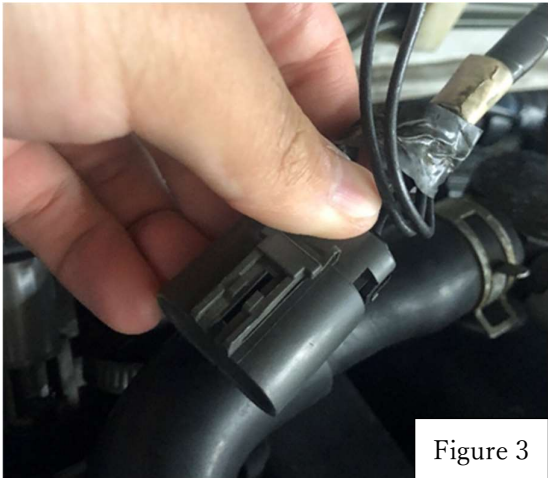
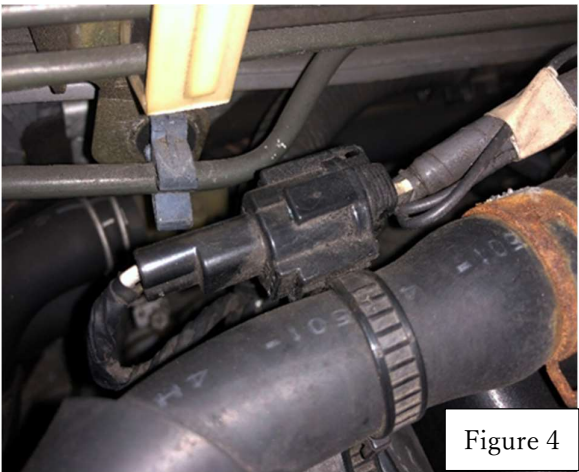

Figure 3
Figure 4
(4) Disconnect the Power connector. (Figure 3, Figure 4, Figure 5)